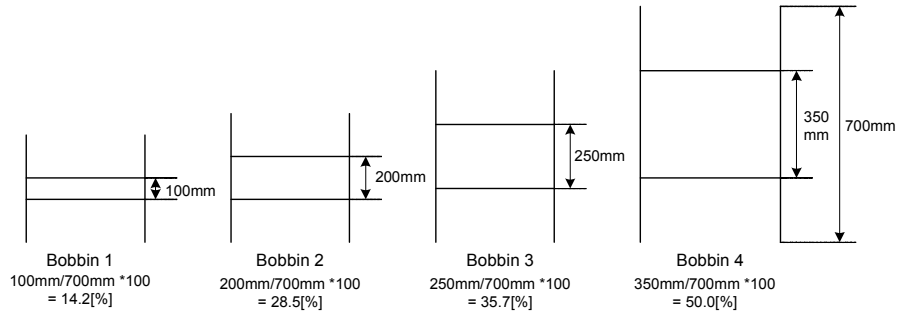

Figure 1.5.1 In case there are multiple sizes of bobbins
**APP-67 (Min Diameter):** Enter the ratio [%] of the bobbin's diameter which is empty against the diameter of bobbin which is full. If the types of the bobbin are diverse as seen in the Figure 1.5.1, enter the ratio [%] of the smallest diameter against the diameter of the largest bobbin. In case it is like the Figure 1.5.1, enter 14.2 [%] in the APP-67 (Min Diameter).
**APP-92 (Max Main Spd):** If the main speed command is 100[%], enter the maximum speed [Hz] of the empty diameter of the smallest bobbin. For example, please see followings. The empty diameter of the smallest bobbin in the Figure 1.5.1 is 0.1m (=100mm). Let's assume the maximum wire speed of this system is 350 [mpm], 4-pole motor, and the ratio of belt (motor is faster) is 2.3/1. At this time, the value entered into the APP-92 (Max Main Spd) is calculated by using the formula 1.5.4.